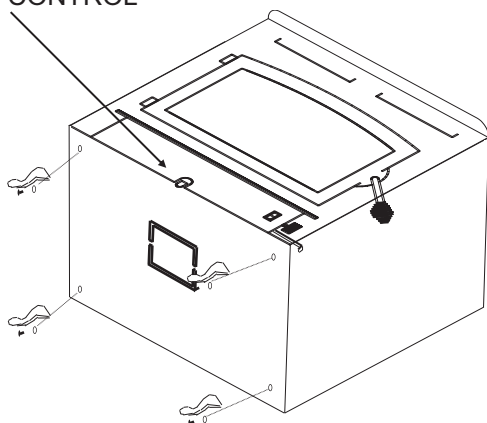

Figure 23
3. Check primary air draft control to ensure that it slides freely.(See Figure 23).
5. **(Leg Kit):** If legs are to be used, obtain four legs, attach legs to holes in bottom of unit with bolts and washers supplied with leg kit. (See Figure 23).